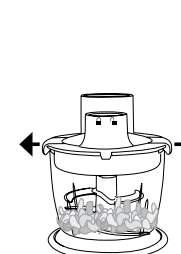

FIG. 10a.
10. Remove the lid by pulling out the locking clips on either side of the lid as illustrated in Fig. 10a and 10b.